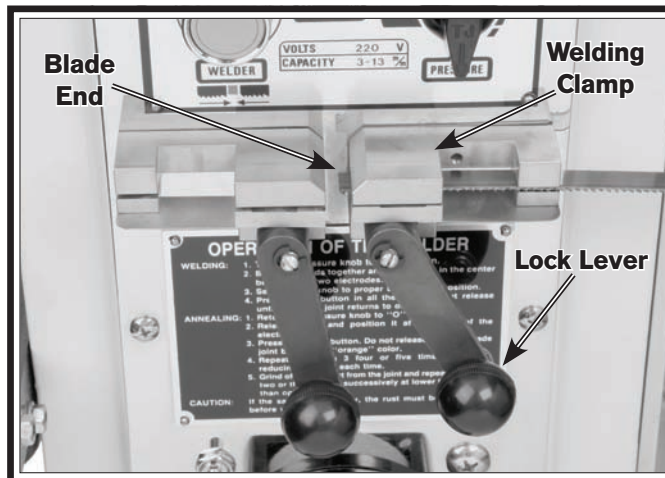

Figure 27. Blade end properly position in welding clamp and locked in place.
- Position the back of one blade end evenly against the back of the welding clamp so that the end is midway between the two clamps, then rotate the lock lever as far up as possible to hold the blade end in place (see **Figure 27**).